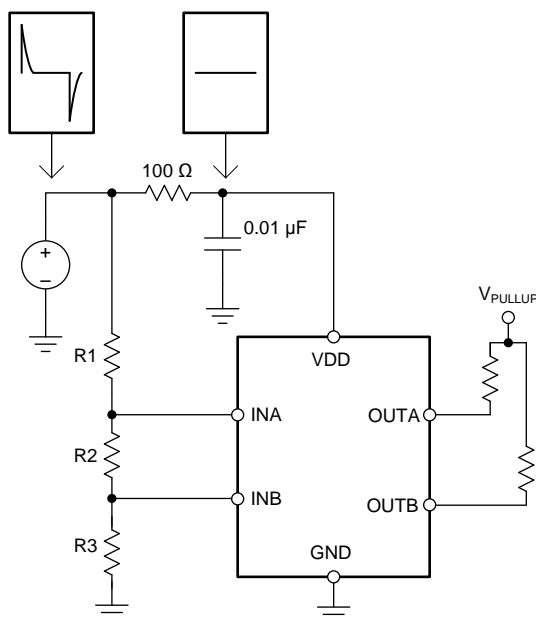

Figure 27. Using an RC Filter to Remove High-Frequency Disturbances on VDD
The TPS3701 has a 40-V absolute maximum rating on the VDD pin, with a recommended operating condition of 36 V. If the voltage supply that is providing power to VDD is susceptible to any large voltage transient that may exceed 40 V, or if the supply exhibits high voltage slew rates greater than 1 V/ μ s, take additional precautions. Place an RC filter between the supply and VDD to filter any high-frequency transient surges on the VDD pin. A 100- Ω resistor and 0.01- μ F capacitor is required in these cases, as shown in Figure 27.
- Avoid using long traces for the VDD supply node. The VDD capacitor (C_{VDD}), along with parasitic inductance from the supply to the capacitor, may form an LC tank and create ringing with peak voltages above the maximum VDD voltage. If this is unavoidable, see Figure 27 for an example of filtering VDD.